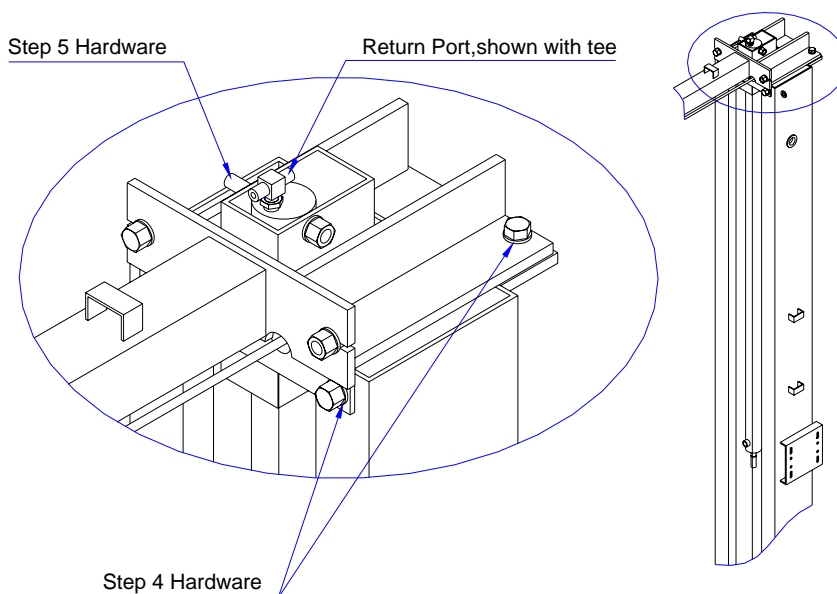

Fig. 4
4. **Attach the cylinder mount or uprights. Attach the cylinder mounts or uprights to the legs using four 1/2" X 1-3/4" bolts, washers and nuts as shown in figure 4.**
- D. Install the cylinders to the uprights or cylinder mounts with **1/2" x 4-1/2" Grade 8 bolts, cylinder bushings (spacers), washers, and nyloc nuts, figure 4**. The port near the rod end of the cylinders should be positioned pointing to the leg's open side. High Rise cylinders must be attached to the alternate hole near the top of the upright.